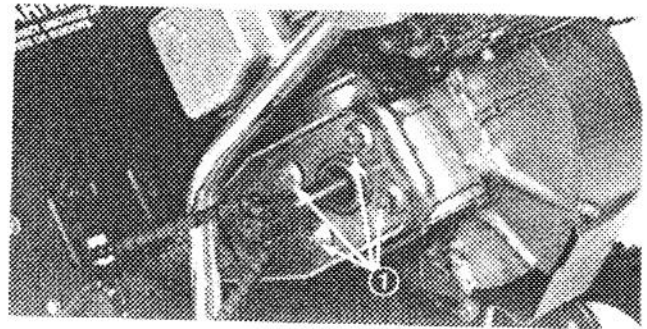

Figure 10
3. Loosen, from left, engine mounting nuts on the left-hand side of engine (Fig. 10).